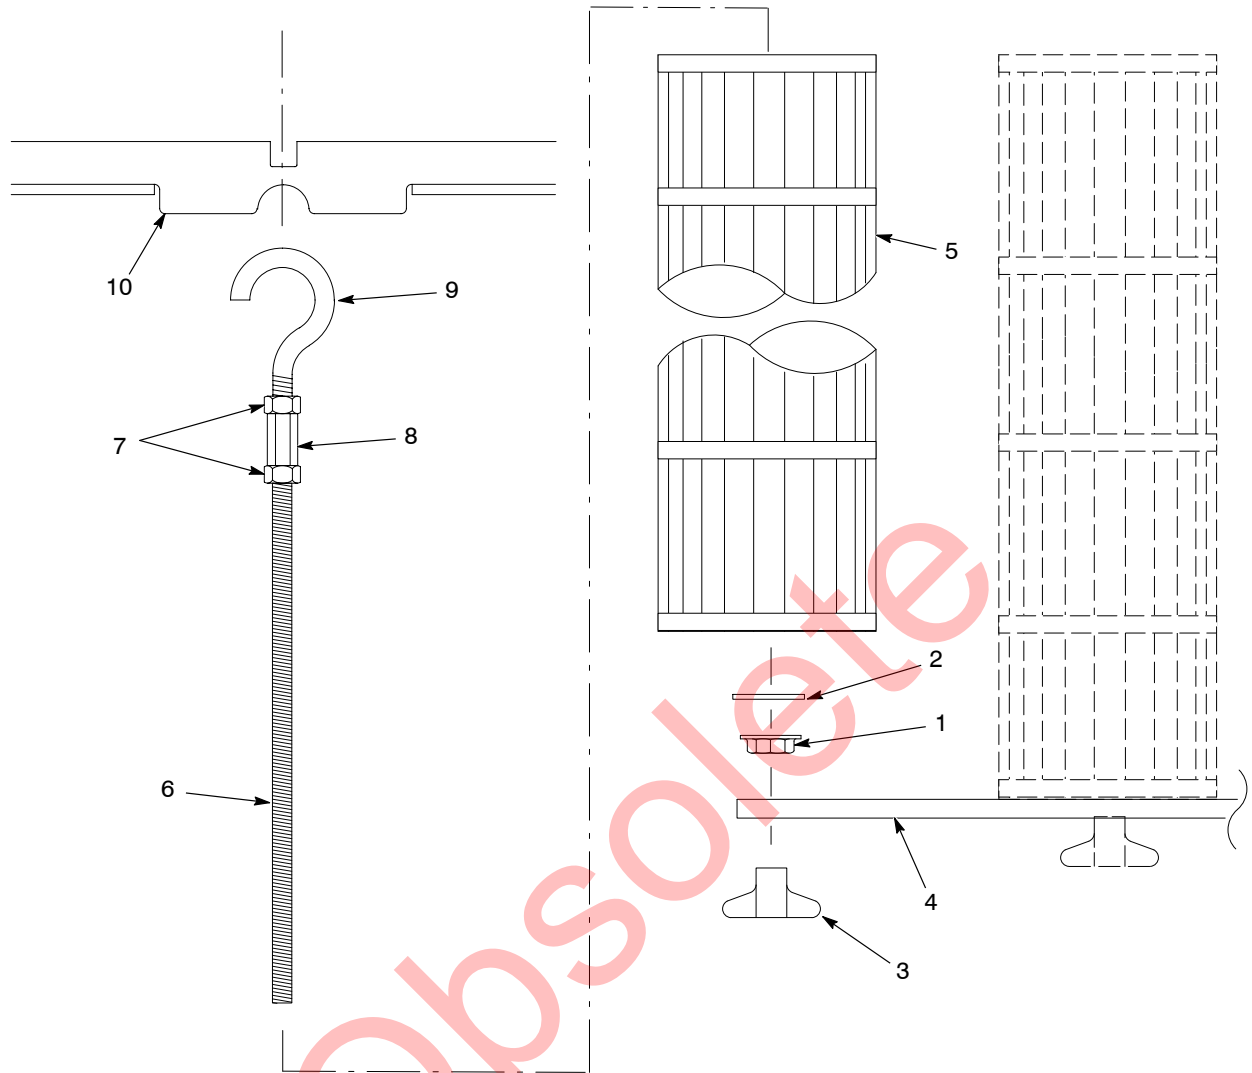

Figure 4 Cartridge Filter Installation
8. See Figure 4. Install the cartridge filter rods and filters as described in *Cartridge Filter Installation*. Attach the retainers to the bottom of the filters.
See Figure 4.